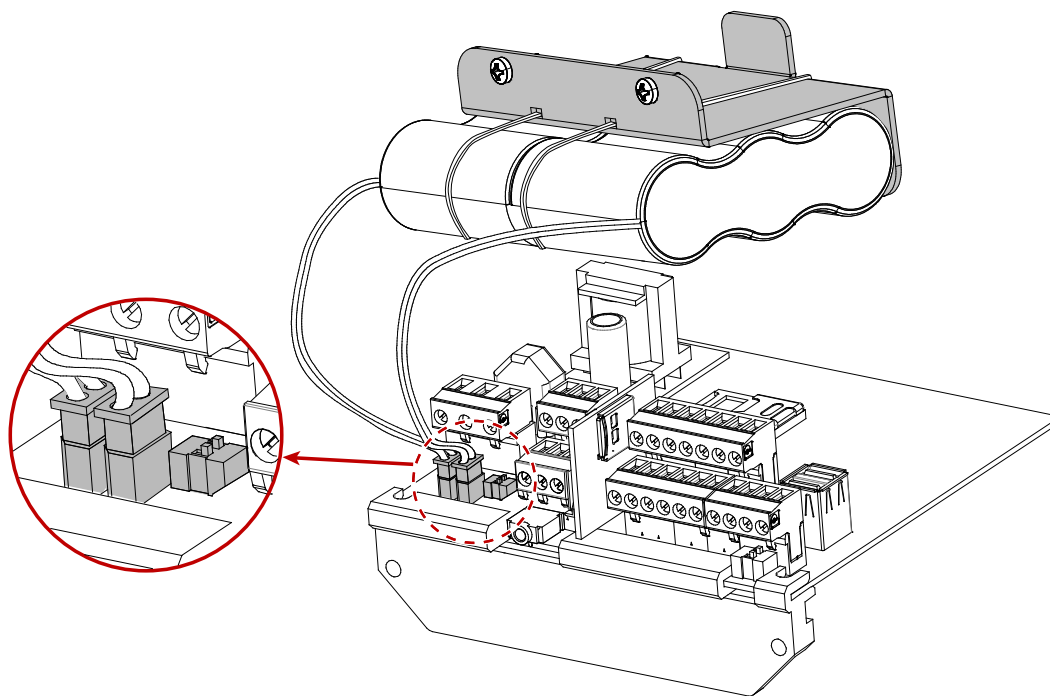

Figure 4. ML255 batteries
2. Place two battery packs (part number AGM009) on the ML255 battery holder as shown in Figure 4.